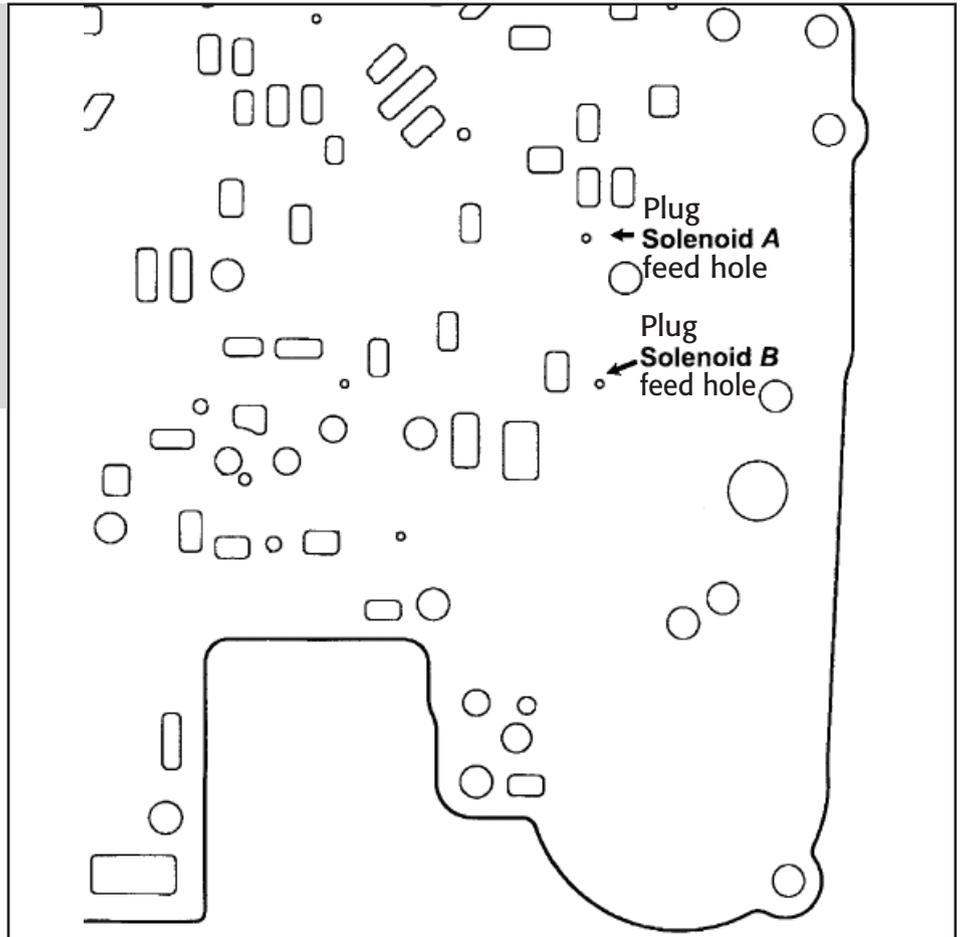

Figure 5: Plug - Solenoid A&B feed holes
### Separator Plate Modifications (Figure 5 and 6)
(figure 5) by peening them with a rounded punch. Since the circuits are exhausted, you don’t have to worry about sealing them off perfectly; simply make them as small as possible.
**Plug solenoid A and B feed holes (figure 5) by peening them with a rounded punch.**